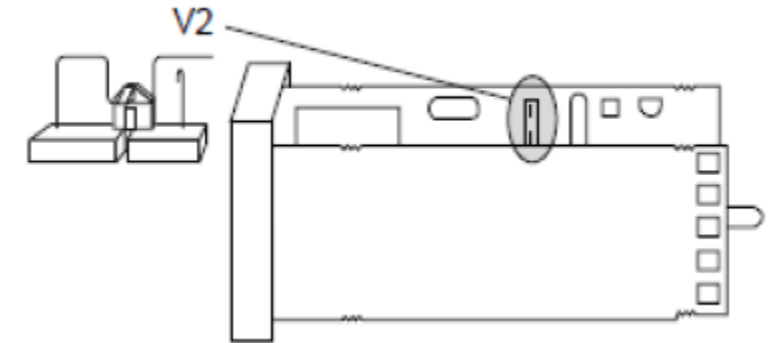

Figure 62 Barber Colman V2 Switch, Electric
Step 2: Open the V2 switch as shown in Figure 62.
Step 8: Close the V2 switch as shown in Figure 62.